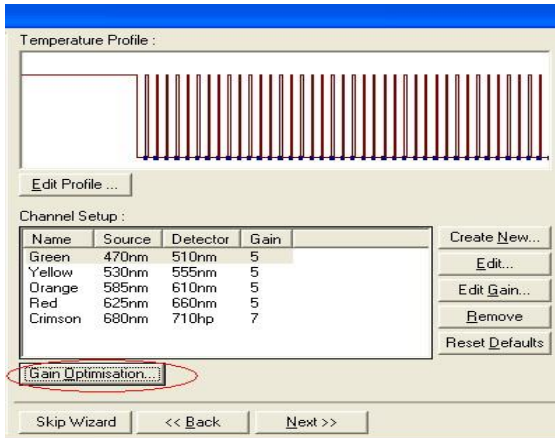
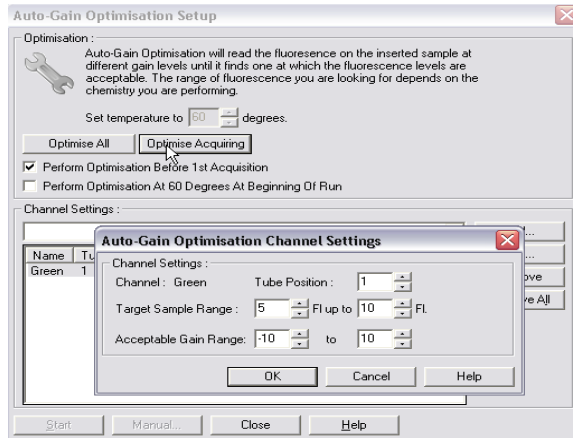
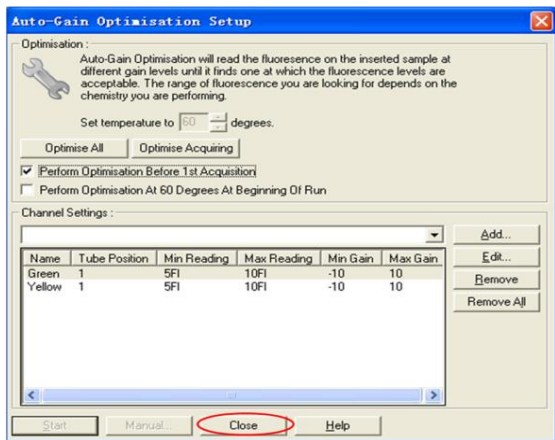

Figure 1
Figure 2
Figure 3
- Prior to the operation, please set up the PCR program by the following steps: ①select “Gain Optimization”, the “Auto Gain Optimization Setup” window will open (see Figure 1); ②Click “Perform Calibration Before 1st Acquisition” and “Optimize Acquiring” (see Figure 2). ③Click “OK”, then click “Close” to continue (see Figure 3).